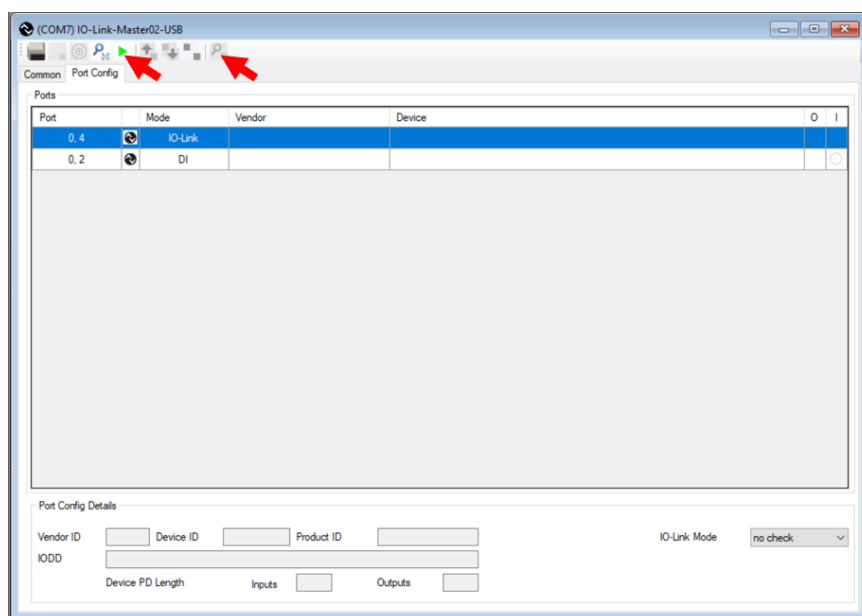

Figure 5. Device Detection
- c. Click on the green lecture button and on the loop to run a device detection (see Figure 5).